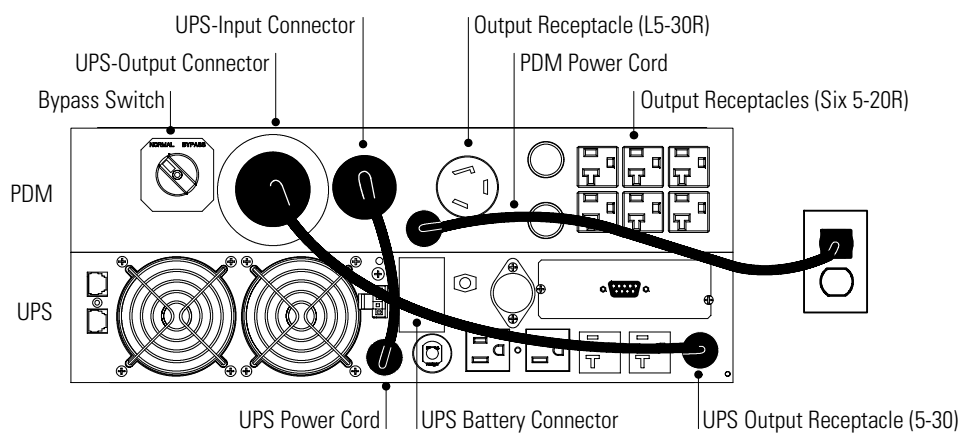

Figure 8. Typical Low-Voltage Installation
1. Verify that the Bypass switch on the PDM is in the NORMAL position (see Figure 8).